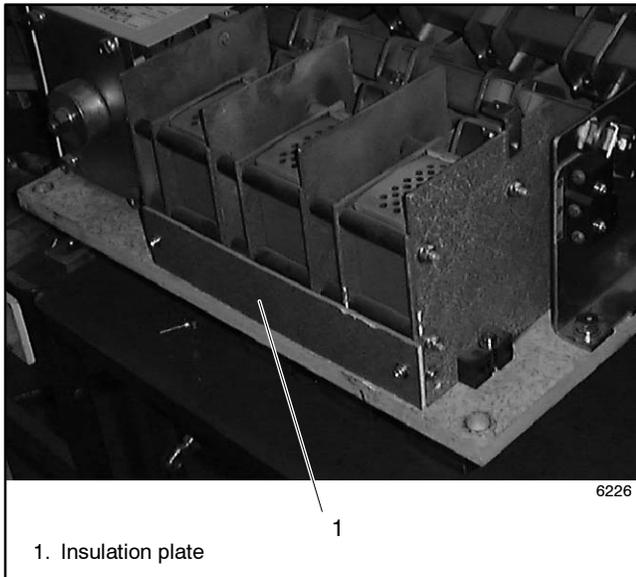

Figure 6-38 600 Amp Contactor
1. Remove the insulation plate. See Figure 6-38.